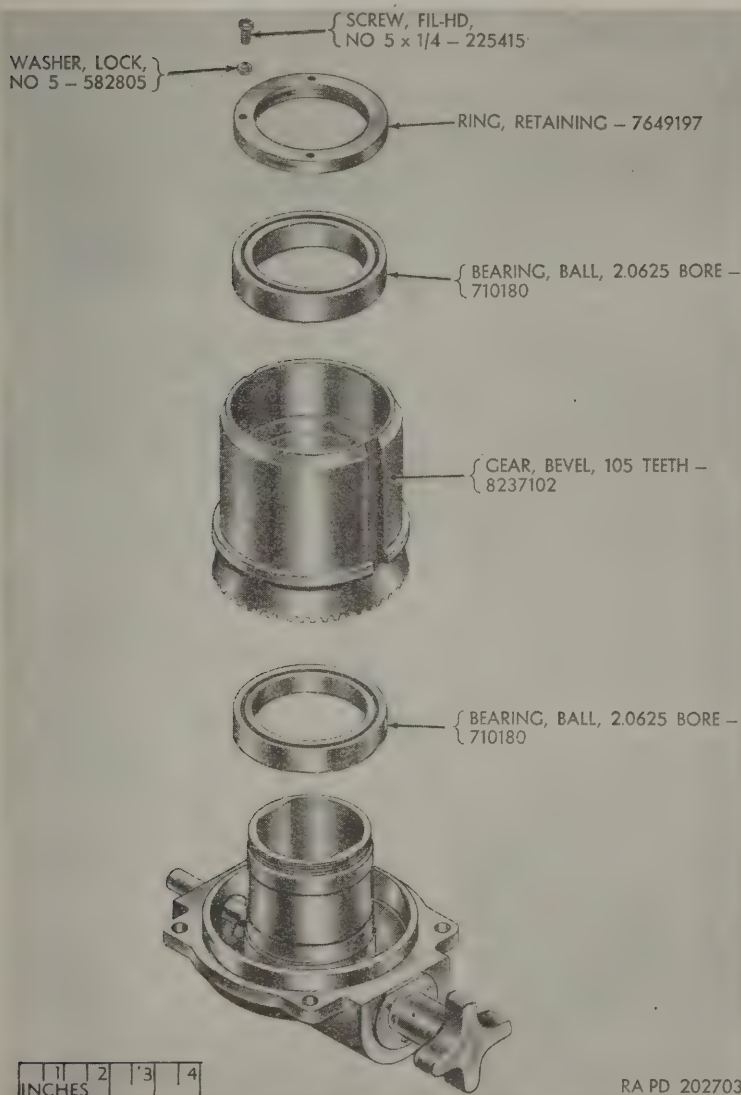

Figure 12. Base assembly 8237117—partial exploded view.
b. Release the threads of the retaining ring (fig. 12) by removing the locking screw and lock washers. Unscrew the ring from the base.
c. Lift the gear (fig. 12) vertically out of the assembly. The upper ball bearing will be withdrawn with the gear. The lower ball bearing can then be withdrawn from the base.
h. Lubricate the low 2.0625-inch bore ball bearing (fig. 12) with aircraft instruments lubricating oil and slide it on the base. Then slide the 105-tooth bevel gear onto the base.
i. Lubricate the upper 2.0625-inch bore ball bearing (fig. 12) with aircraft instruments lubricating oil and slide onto the base until it seats in the bevel gear. Secure the bearings and gear to the base by screwing the retaining ring on the base.